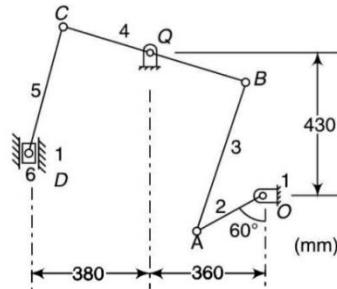

Fig. 3b
b) Figure 3b shows a six-link mechanism. The dimensions of the links are: OA = 220 mm, AB = 485 mm, BQ = 310 mm, BC = 590 mm and CD = 400 mm. For the position when the crank OA makes an angle of 60° with the vertical, find the velocity of the slider D. The crank rotates clockwise at 150 rpm.